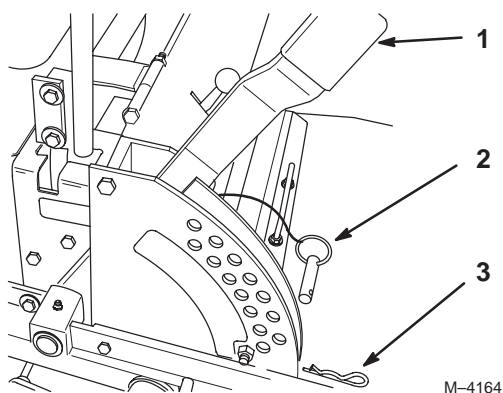

Figure 10
1. Press your foot on the lift assist pedal while raising the height-of-cut lever to the transport position (also the 5 in. (127 mm) cutting height position) (Fig. 10).
2. To adjust, remove hairpin cotter and clevis pin from height-of-cut bracket (Fig. 10).
3. Select hole in height-of-cut bracket corresponding to the height-of-cut desired, and insert clevis pin (Fig. 10).
4. Secure clevis pin with hairpin cotter (Fig. 10).